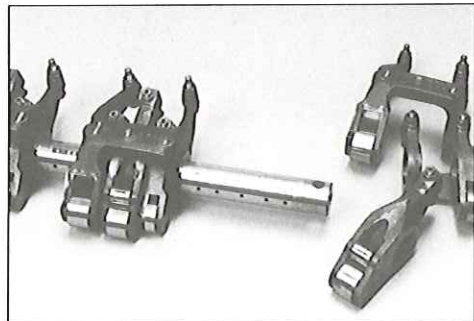

FIG. 52
5. Slide the rockers off the shaft (Fig. 52), marking the parts so they may be reinstalled in the same position.